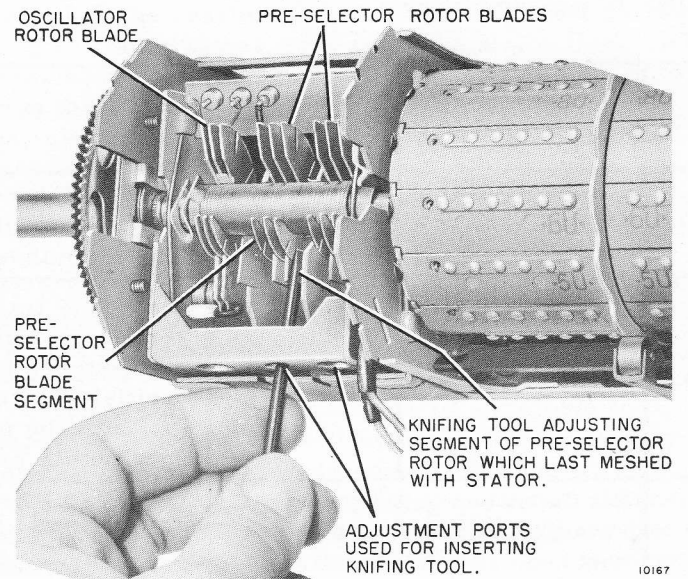

Figure 37. View of VHF-UHF Tuner Showing Method of Aligning (Knifing) Rotor Blades in UHF Section.
- *NOTE 1: If UHF tuner is far out of alignment, the response curve may be too low in amplitude to be readily observed, or it may be very distorted in shape. In this case, it will be necessary to roughly align the preselector before completing final oscillator adjustment. This is done by knifing the preselector rotor blade segments (figure 37) adjacent to the stator at dial setting for the affected channel.